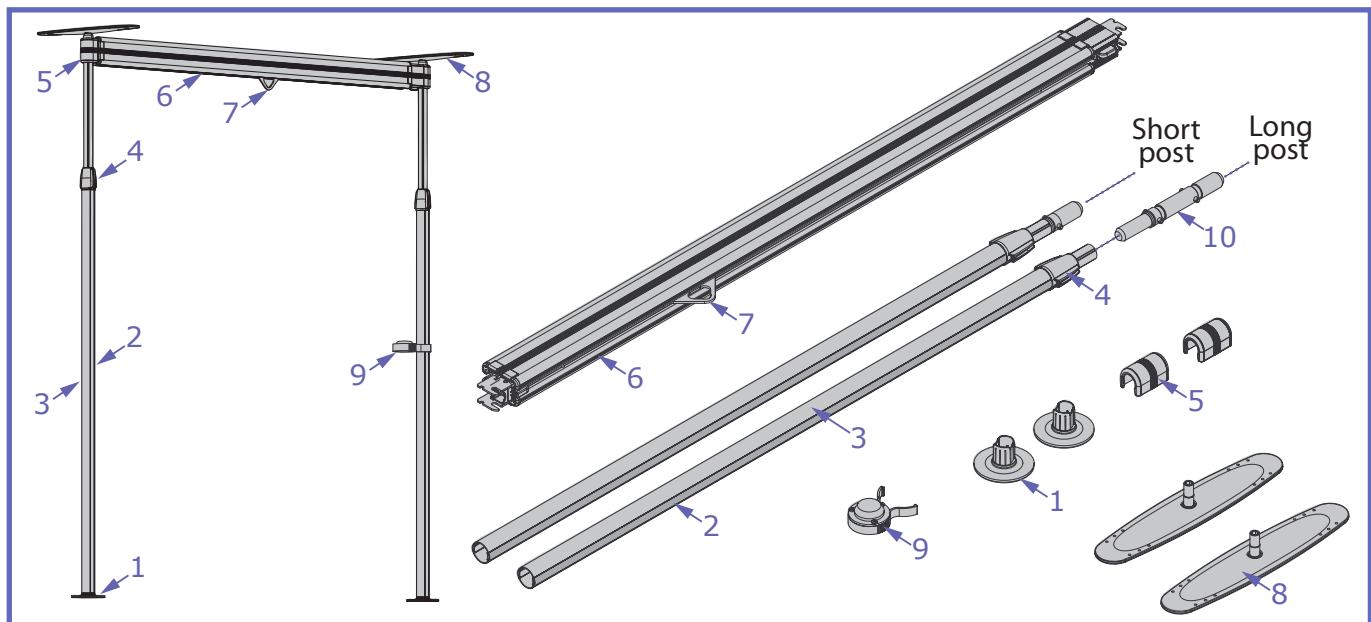
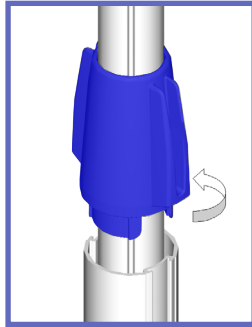

Fig. 1
Fig. 15
- 3) Place one round foot plate (see Fig. 1 - item № 1) on the floor where you want to place the first post of the *EASYTRACK* System.
- 4) Take one of the posts out of the box. Turn the post upright. Place the clip-on level (see Fig. 1 - item № 9) onto the post at approximately waist height.
- 5) For kit featuring long posts, take the post extension (see Fig. 1 - item № 10) out of the box and insert it into the post until it snaps into place.
- 9) Lift the blue locking handle out of the lower portion of the post (see Fig. 1 - item № 4). Using the blue piece as a handle, twist the post as shown in Fig. 15: